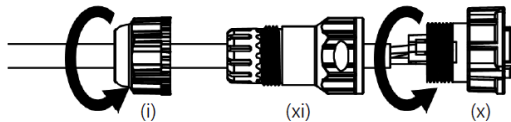

Figure 48: Step 5
- Screw the sealing nut (i) and the assembled housing (x) onto the assembled sealing body (xi) with a torque force of 8–10 kgf-cm (Figure 48).